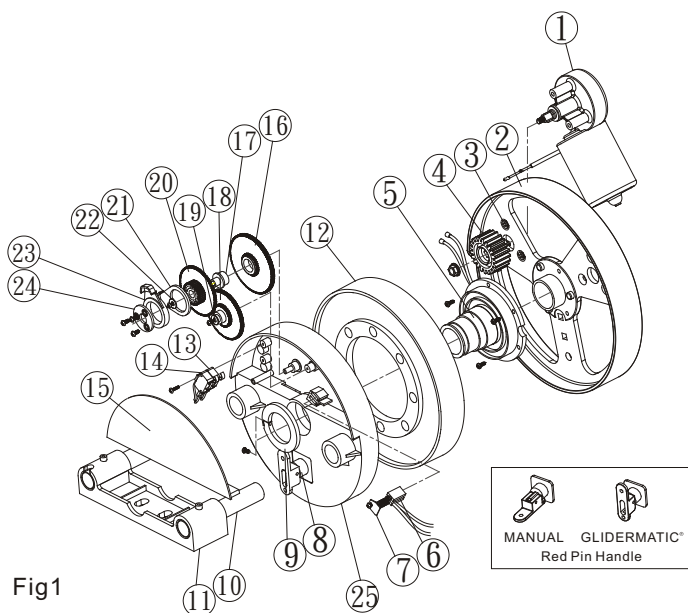

Fig1
- v. Engage Glidermatic by switching manual release pin to Automatic refer (Fig. 1).